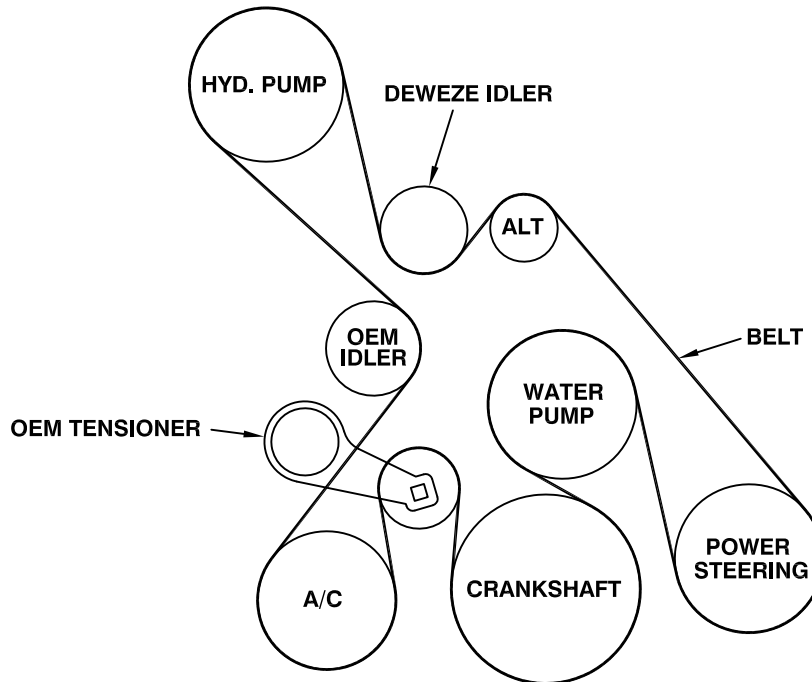
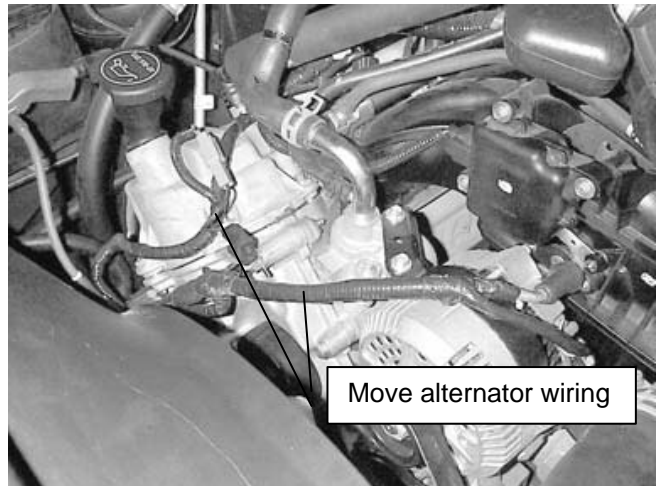

FIG. 4
Fig. 5
5. On 2009 and later trucks, remove the OEM bracket over the top of the alternator. Cut the bracket along the dotted line and discard the shaded portion as in Fig. 4. Reinstall this bracket. Place the bridge plate (19) on top of the alternator bracket (Location D) and over to where the removed portion of the OEM bracket was attached (Location E), using the OEM bolts (20, 21).
6. Remove OEM idler pulley (12) to gain access to mounting bolt at location B. Keep the pulley and bolt.
7. Remove nut (13) holding wire at location A. Remove stud bolt (6) at location A. Remove OEM bolt at location B.
8. Install the hose adapters into the pump ports. Bolt pump (3) onto pump plate (1) with two 3/8 x 1 flange bolts (9). Attach coil (4a) with four 1/4 x 1/2 flange bolts (4b). Torque these to 6 ft-lb. Attach clutch pulley (4c) to pump shaft with 5/16NF x 1 1/4 bolt (4d) and heavy washer (4e). Torque to 14 ft-lb.
9. Attach the idler pulley (5) to the boss on the front of the pump mount bracket (1) at Location C with the M10 x 60 bolt (8). Torque to 19-25 ft-lb.
10. See Fig. 5. Disconnect the wiring from the alternator, pull it from the attachment points on the valve cover and push it back on top of the valve cover. Make sure the alternator wiring will not be pinched between the engine and the pump bracket when it is installed.